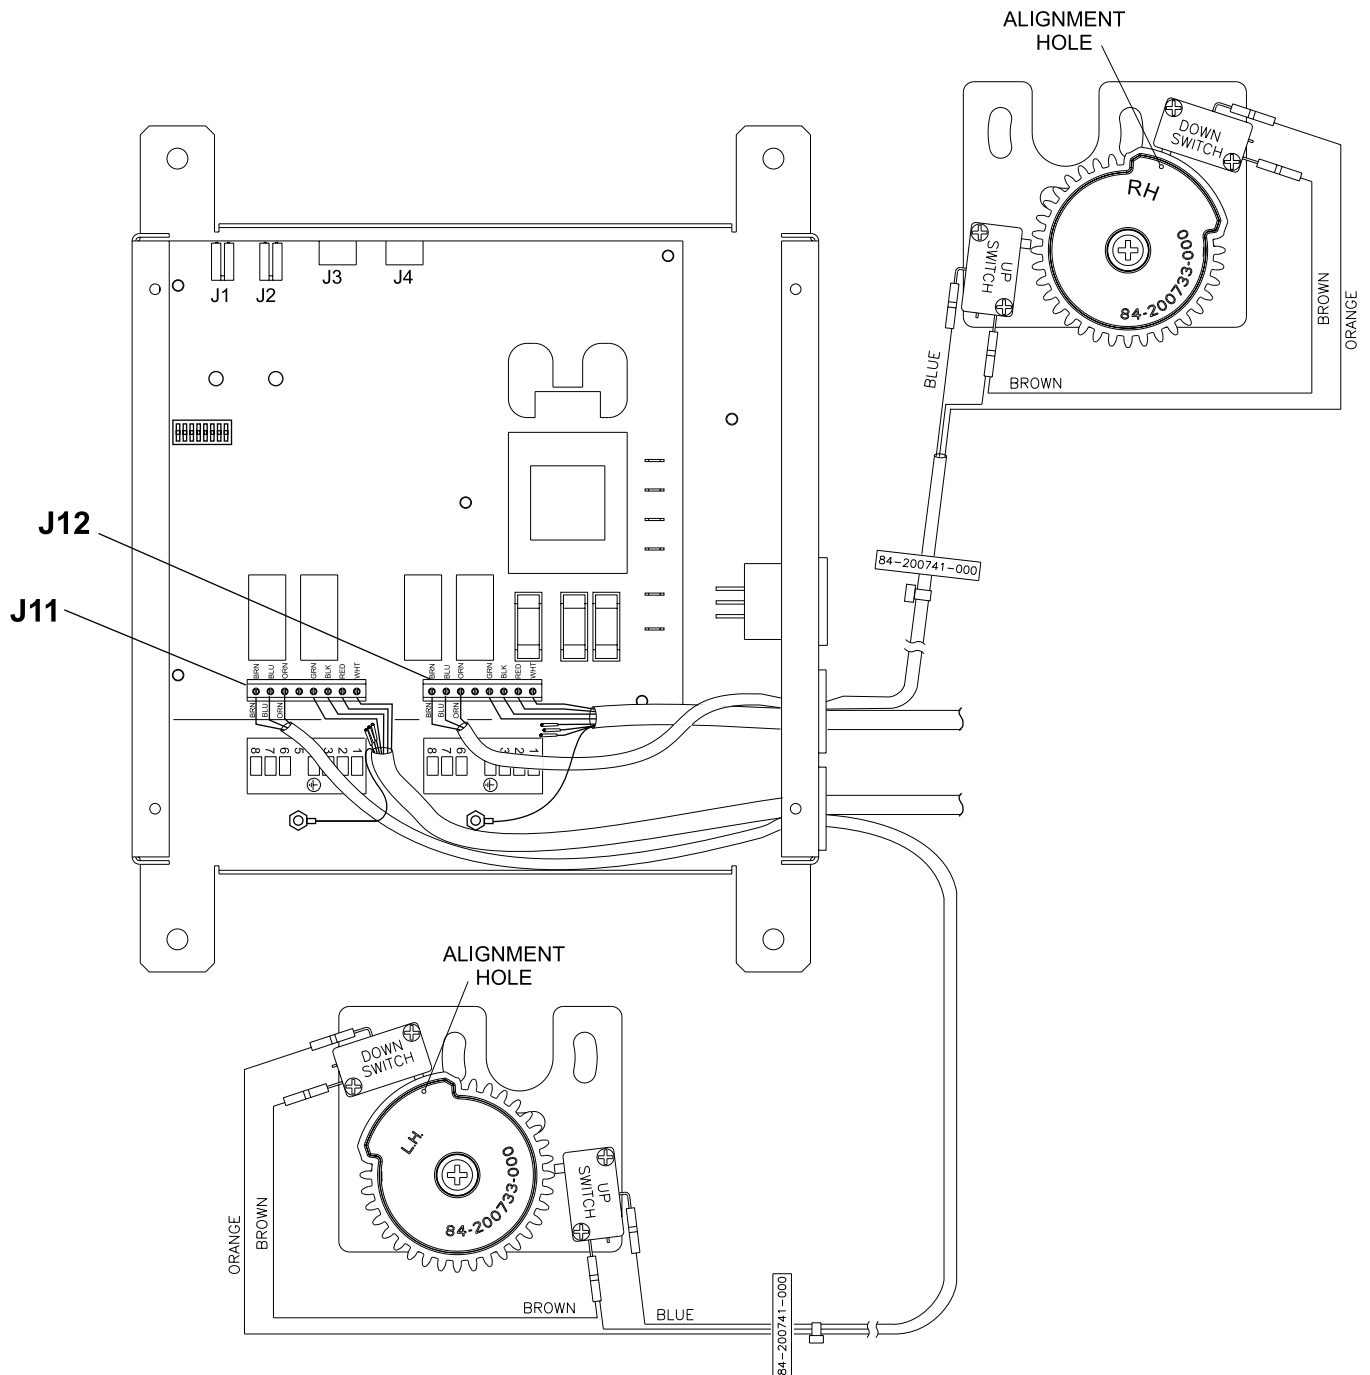

Figure 11
- Route the new orange, blue and brown wires from the left-hand and right-hand external timing switch plate (P/N 84-200473-xxx) to the Pin Ball Wizard controller. Refer to *Figure 11*.